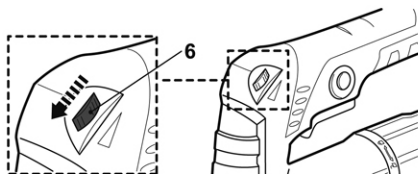

Fig. 9
1. Turn the speed dial (6) left (as seen from below perspective) to increase the working speed (Fig. 9). A higher setting is suitable for sanding with fine-grained sanding papers to achieve a fine finish.